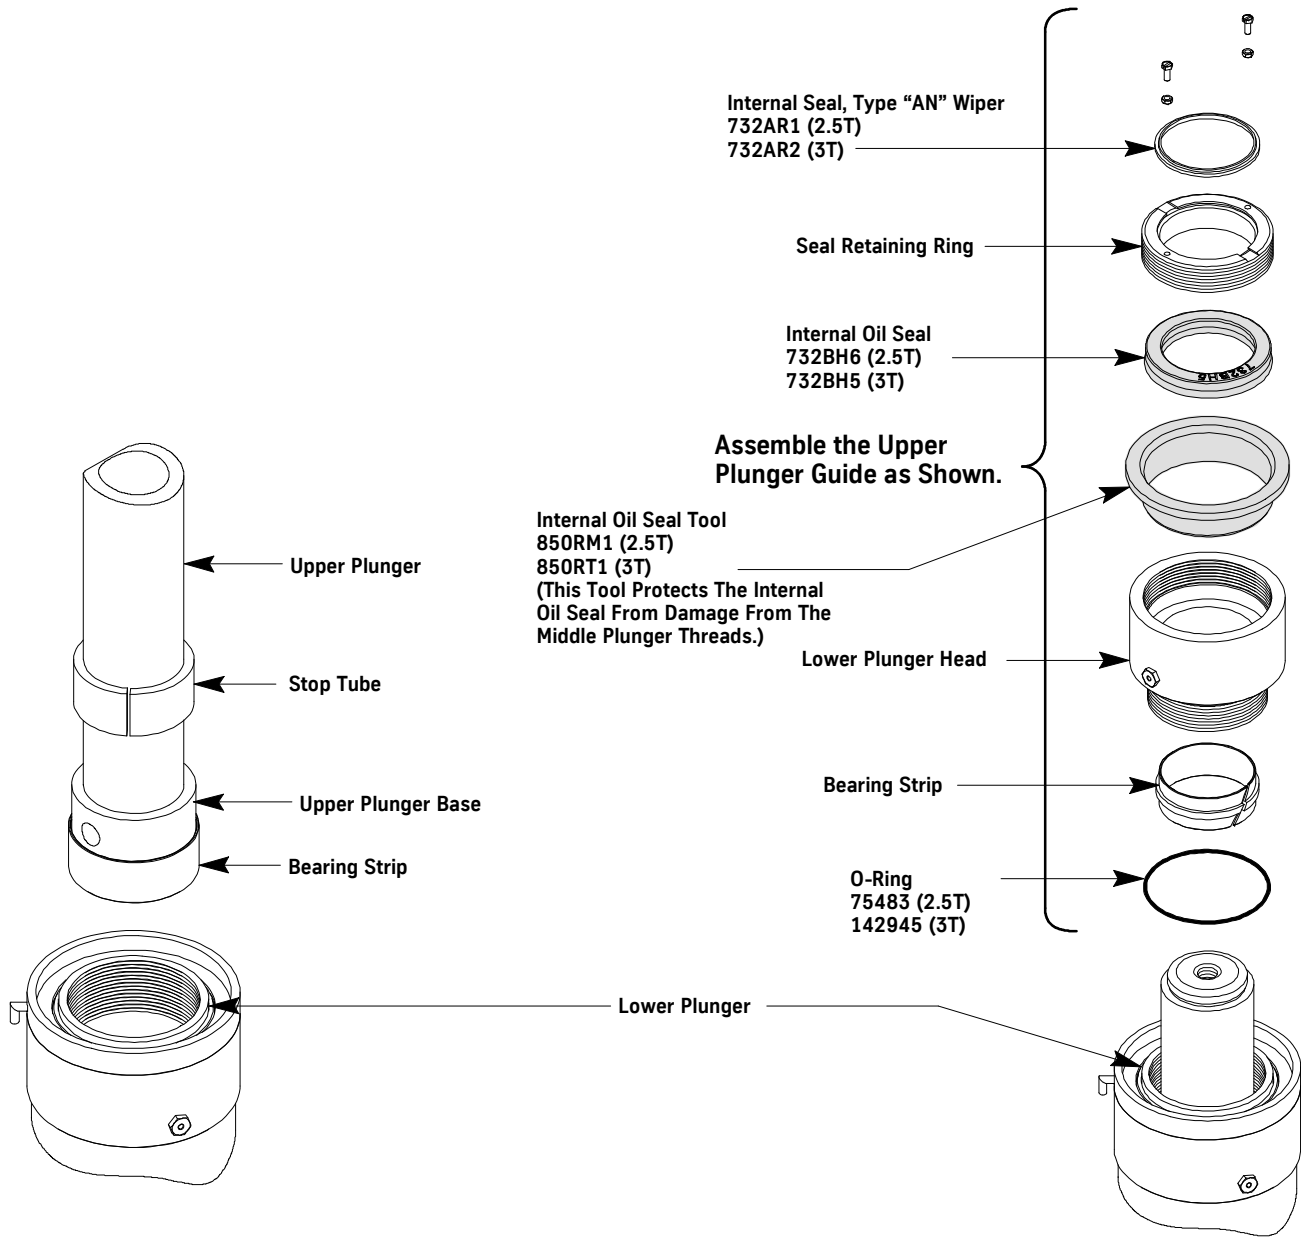

Figure 30 - Upper Plunger Internal Oil Seal Installation
2. Replace the bearing strip. See Figure 30.
5. Disassemble the upper plunger guide and discard the wiper, internal oil seal, and the O-Ring. See Figure 30.
7. Reassemble the upper plunger guide with a new wiper, internal oil seal, and O-Ring. Apply grease to the O-Ring to hold it in place. See Figure 30.